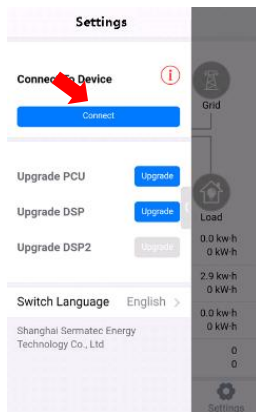

Figure 4-8
3.Open "Sun Mate" APP. Tap "Connect". (Figure 4-8)